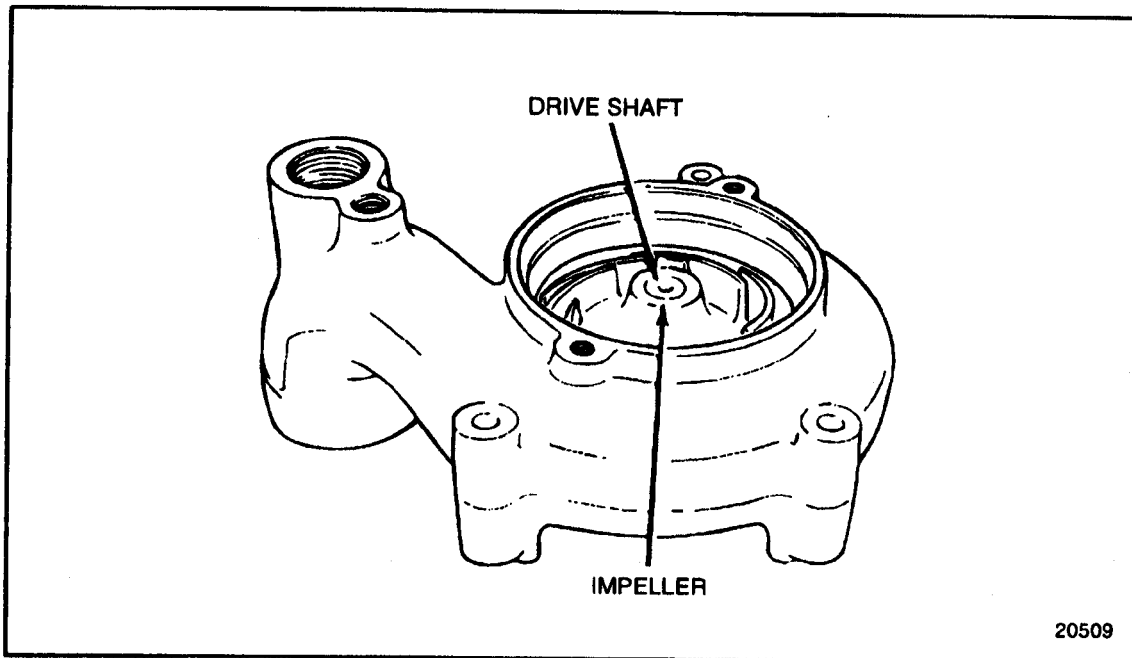

Figure 4-61 Water Pump Impeller Location (FM)
22. Press the impeller on until it is flush with the end of the drive shaft. See Figure 4-61.